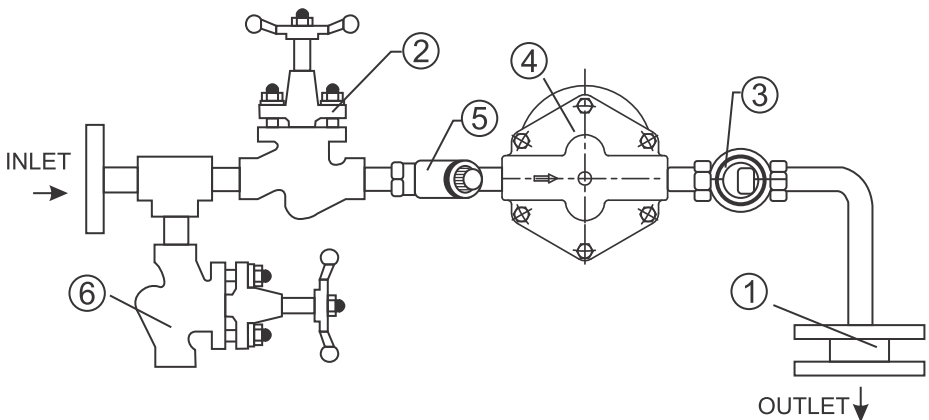

Figure 4 : Single Orifice Float trap module
5. Installation Guidelines : (Refer to Figure 4, 5 , and 6)
3. Ensure the availability of all components as shown in Figure 4, to ensure the operation of the trap.
6.1 Flushing of Lines : (Refer to Figure 4)
6.2 Commissioning: (Refer to Figure 4)